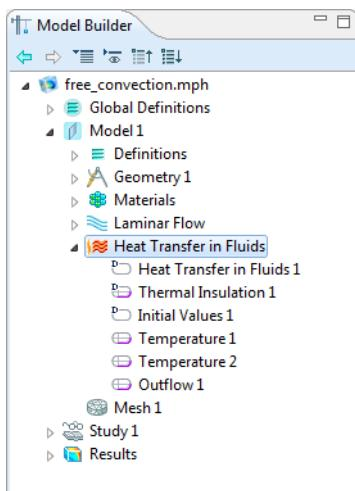

Figure 3-1: An example of the Model Builder default nodes.
After clicking the **Finish** button () in the **Model Wizard**, the **Model Builder** window displays a model tree with a set of default nodes in the **Model** branches—**Definitions**, **Geometry**, **Materials**, **Mesh**, and nodes based on the physics interfaces selected (see Figure 3-1). The **Model** nodes and branches form the sequence of operations that define the model.
- **Geometry** (A): Contains the sequence of geometric objects and operations (or imported CAD data) that defines the model geometry.
- **Materials** (M): Contains the materials and material properties used as sources for material data in the model. See Materials for detailed information.
- **Physics** (): Any added physics displays as a node under **Model** (**Heat Transfer** in Figure 3-1 for example).